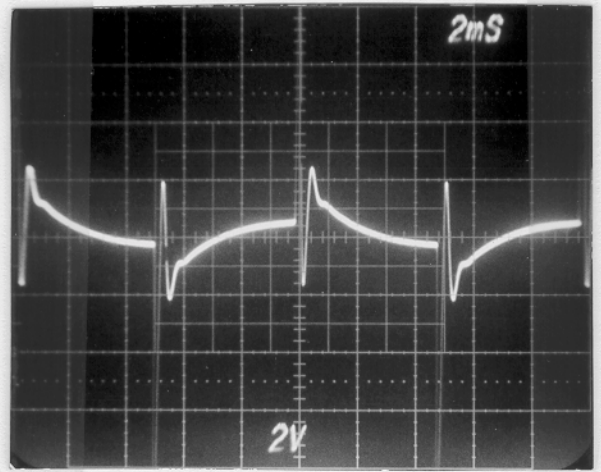

Fig. 12. High Boost to 10.
- 3) Increase hi- boost to 10- compare output to Fig. 12. Reset to 0.